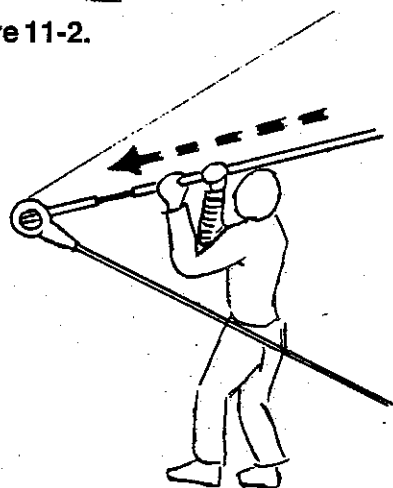

Figure 11-3.
3. **Extend spring arm** by releasing snap stud and placing claw on shaft of roller, **set spring arm tension** by pushing briskly in direction of arrow as shown in **figure 11-3**. Be sure pin in cap of ratchet stud is facing toward arrow.